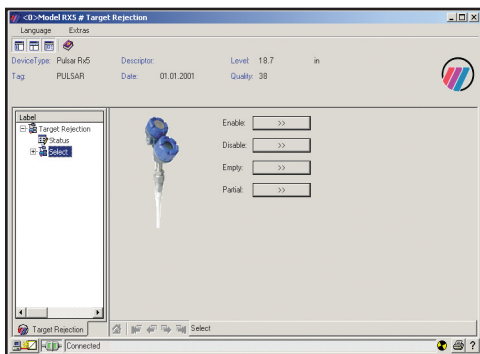

Figure 14
- In the left side file menu area, double-click on TARGET REJECTION to display SELECT (see Figure 14).